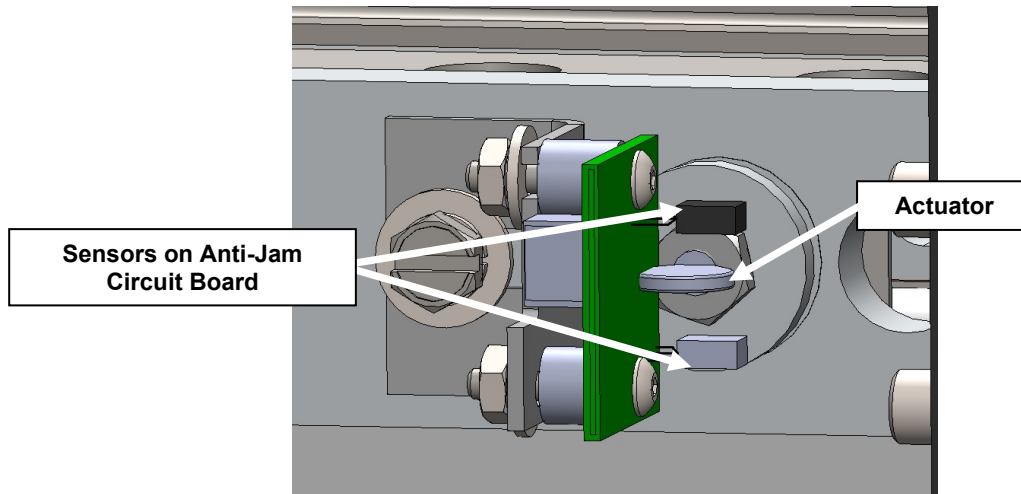
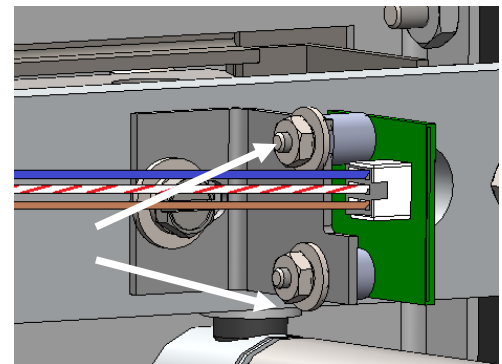

Figure 4-10
Figure 4-11
10. To check the Sensors and the Actuator on the Anti-Jam Circuit Board (as shown in Figure 4-10), place a small Screw driver between the two Sensors (Figure 4-11), breaking the beam that is projected, causing X6 (left side) or X7 (right side) to illuminate on the PLC I/O screen.